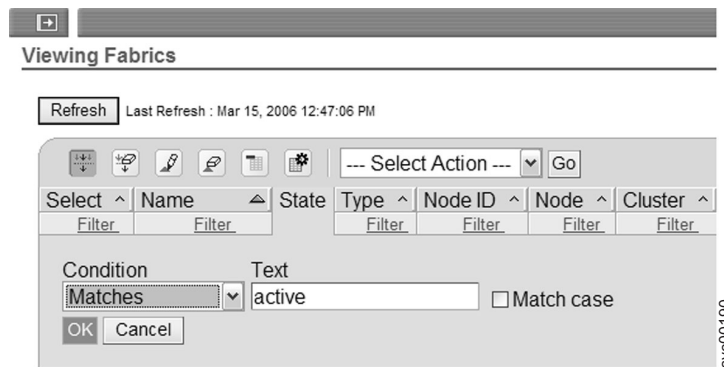

Figure 60. Displaying all active devices
- From the **Condition** menu, select **Matches**, as shown in Figure 60, and then click **OK**.